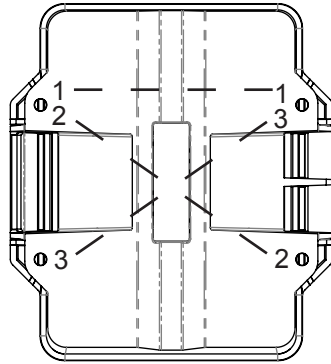

Figure 2 - Fastener configuration
3. Use quantity 2 to 4 M3.5 (or #6) fasteners to secure to desired surface. If using only 2 fasteners, install per the following pairs (1,1), (2,2), or (3,3). (See Figure 2 for fastener configurations).